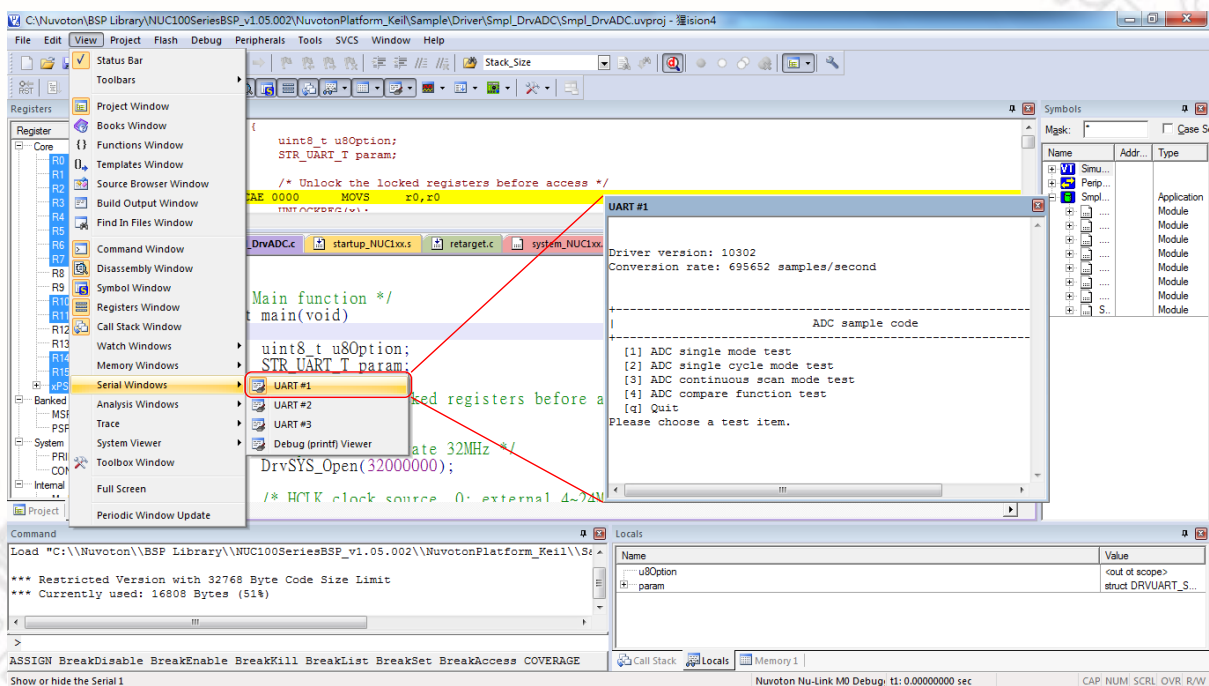

Figure 3-4 Semihost Options in Keil Debug Mode
When using the Semihost function, the message of the NuMicro™ Family microcontroller can be output through UART to the debug window by the Nu-Link Adapter. That is, the message is output without the GPIO. Figure 3-4 shows the debug messages in the “UART #1” form, which are the messages output by the Nu-Link Adapter.
Step 3: In Debug mode, invoke **View** → **Serial Windows** → **UART #1**, as shown in Figure 3-4.